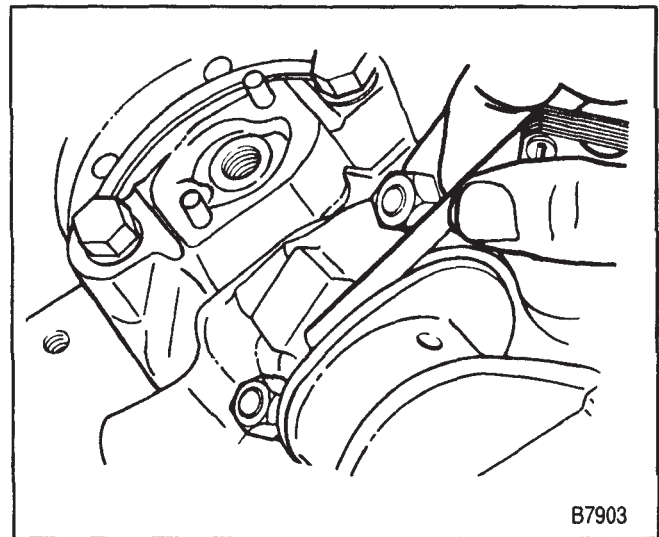

Figure 31—Measuring Connecting Rod Side Clearance
- Connecting rod side clearance. Use a feeler gage between the connecting rod and crankshaft (figure 31). The correct clearance is 0.36 to 0.60 mm.